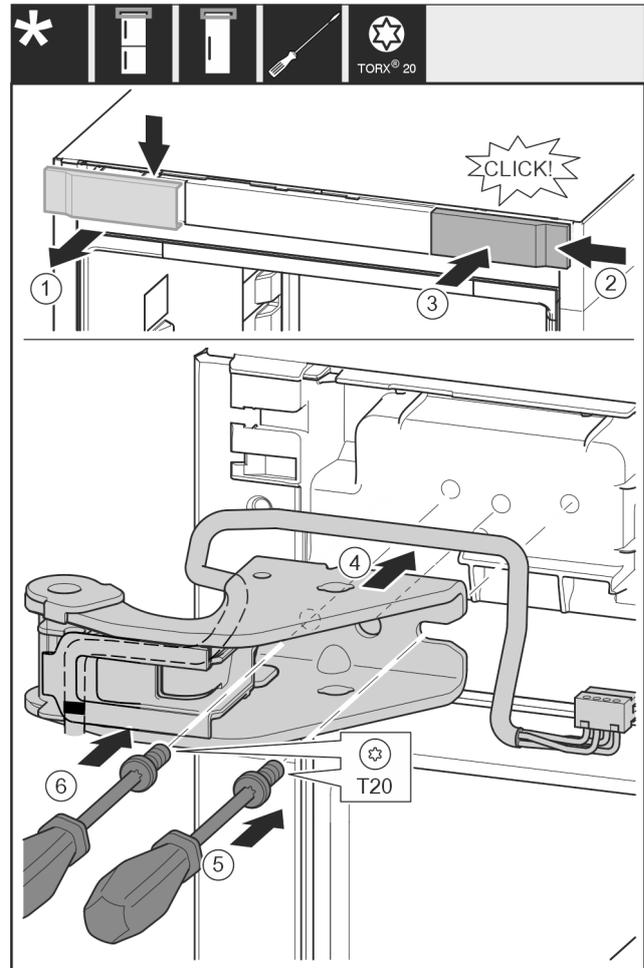

Fig. 22
- ▶ Remove the cover from above towards the front. Fig. 22 (1)
- ▶ Turn the cover by 180° and attach to the other side from the right. Fig. 22 (2)
- ▶ Engage the cover. Fig. 22 (3)
- ▶ Place the top swap bearing block. Fig. 22 (4)
- ▶ Use screwdriver T20 to place the screw and tighten it. Fig. 22 (5)
- ▶ Use screwdriver T20 to insert the screw and tighten it. Fig. 22 (6)